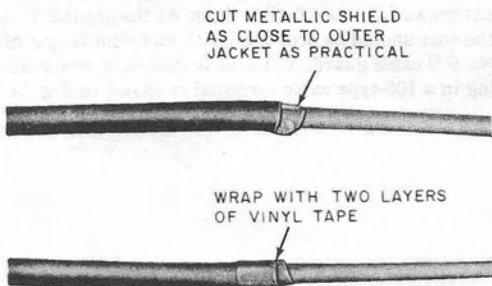
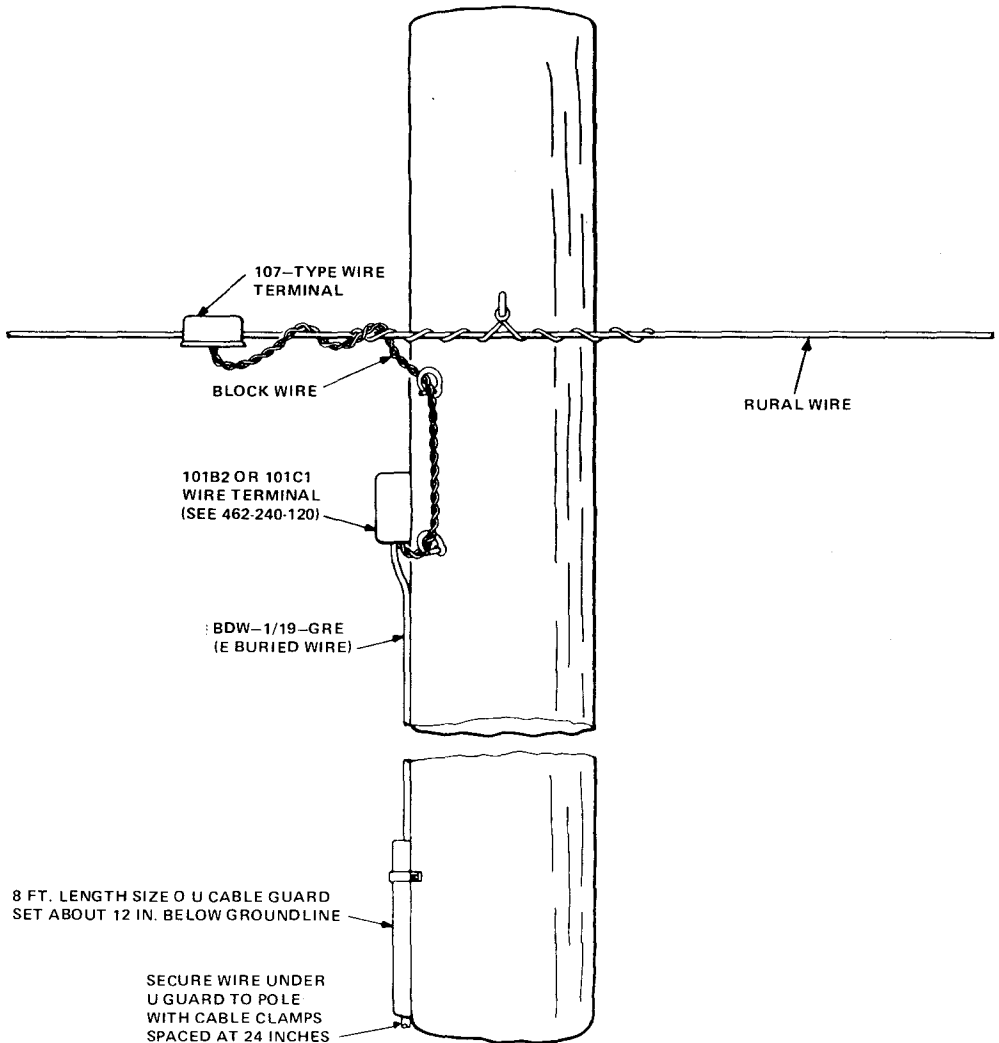
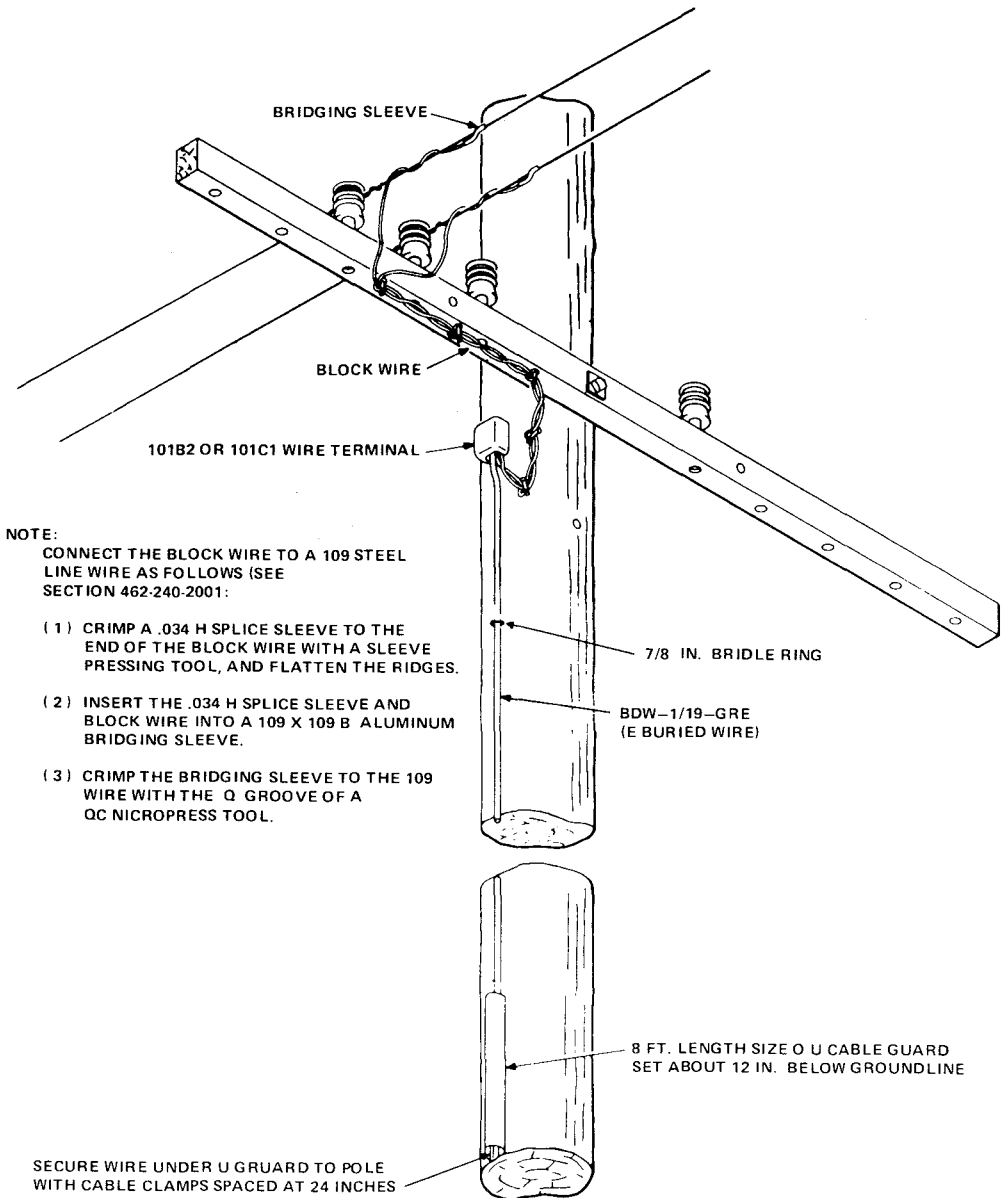

Fig. 15—Removal of Metallic Shield
Fig. 19—Termination of BDW-1/19-GRE (E Buried Wire) and Rural Wire
Fig. 20—Termination of BDW-1/19-GRE (E Buried Wire) and Open Wire
4.18 Where the buried wire is 700 feet or less in length, grounding of the metallic shield at the aerial cable terminal is omitted. Cut off the metallic shield at the terminal location, and wrap with two turns of vinyl tape (Fig. 15).
metallic shield should be cut back and taped as shown in Fig. 15. Connect the conductors of BDW-1/19-GRE (E buried wire) to the conductors of the multiple wire with block wire. At the ground line, the wire should be covered with an 8-foot length of No. 0 U cable
4.27 At the junction with C rural wire, BDW-1/19-GRE (E buried wire) can be brought up a pole and terminated in a 101B2 or 101C1 wire terminal. The metallic shield should be cut off and taped as shown in Fig. 15. Block wire should be used to bridle between the 101B2 wire terminal and the 107-type wire terminal on the C rural wire. At the ground line, the BDW-1/19-GRE (E buried wire) should be covered with an 8-foot length of No. 0 U cable guard. A typical installation is shown in Fig. 19.
4.29 At the junction with open wire, BDW-1/19-GRE (E buried wire) can be brought up a pole and terminated in a 101B2 or 101C wire terminal. The metallic shield should be cut off and taped as shown in Fig. 15. Block wire must be used between the protector and the open wire. At the ground line, the wire should be covered with an 8-foot length of No. 0 U cable guard. A typical installation is shown in Fig. 20.